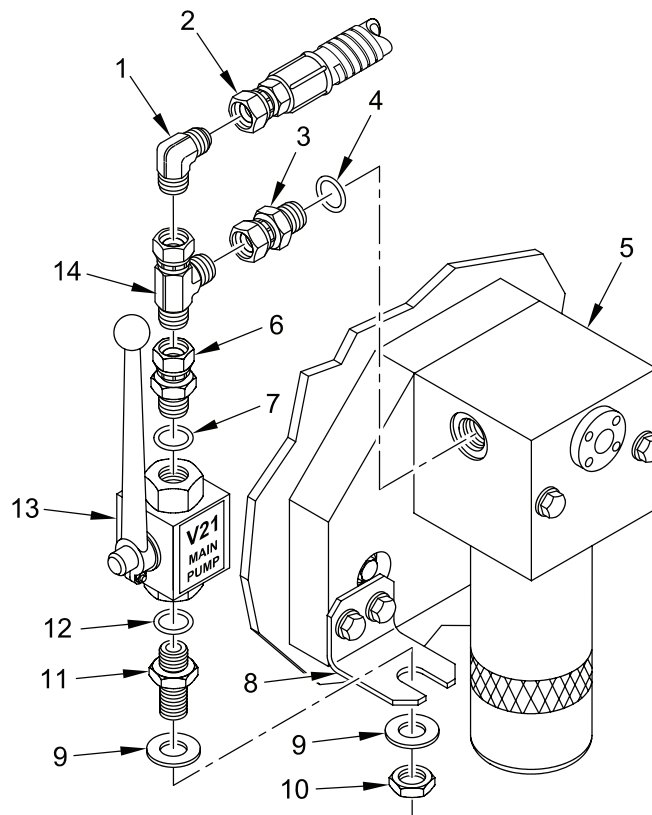

Figure 2. Removing Valve V21 (V22), Relief Valve, and Bypass Hose
4. Remove adapter (Figure 2, item 11), two flat washers (Figure 2, item 9), o-ring (Figure 2, item 12), and valve V21 (Figure 2, item 13) from bulkhead bracket (Figure 2, item 8). Discard o-ring.
5. Remove adapter (Figure 2, item 6) and o-ring (Figure 2, item 7) from top of valve V21 (Figure 2, item 13), and valve V21 (Figure 2, item 13) from tee (Figure 2, item 14). Discard o-ring.
6. Remove bypass hose (Figure 2, item 2) from adapter (Figure 2, item 1).
7. Remove adapter (Figure 2, item 1) from tee (Figure 2, item 14) and tee (Figure 2, item 14) from adapter (Figure 2, item 3).
8. Remove adapter (Figure 2, item 3) and o-ring (Figure 2, item 4) from filter (Figure 2, item 5). Discard o-ring.